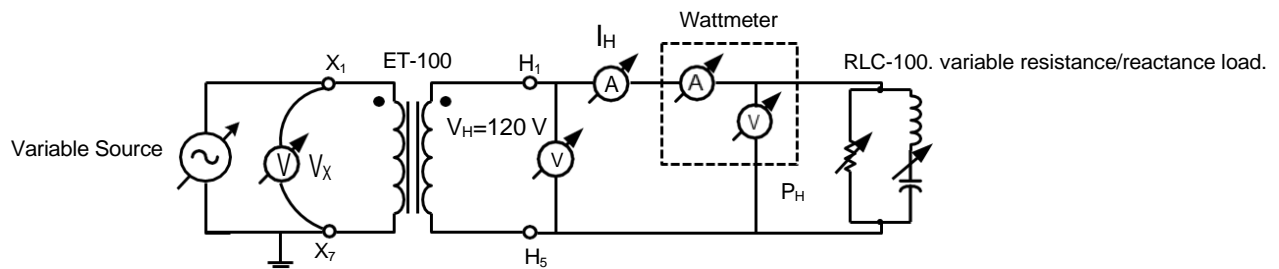

Fig. 8. The connections for the measurements under load
- I. Before performing any connections, make sure the power source is turned off and the voltage knob is turned to zero position. Make the connections in fig. 8. Connect the current and wattmeter to the secondary (H side). Connect the resistive and reactive part of one phase of the RLC-100 load across the secondary as shown in the figure. Leave the terminals of the other phases open.